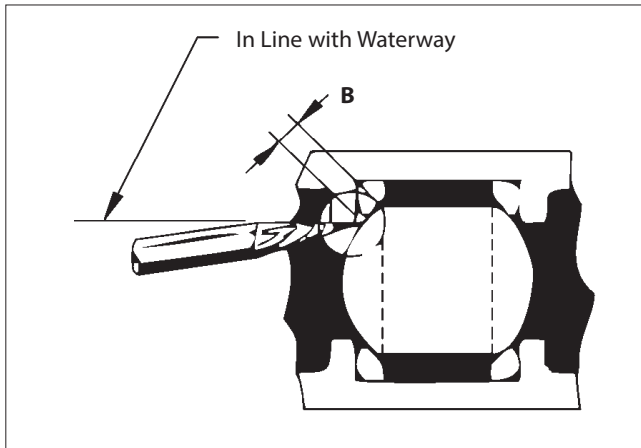

Figure 9 Setting Closed Position
- Valve Closed Position: Scribe a pencil mark on the ball as shown in Figure 9. Open the valve and measure Dimension "B". Adjust the stop according to the dimensions in Table 4.